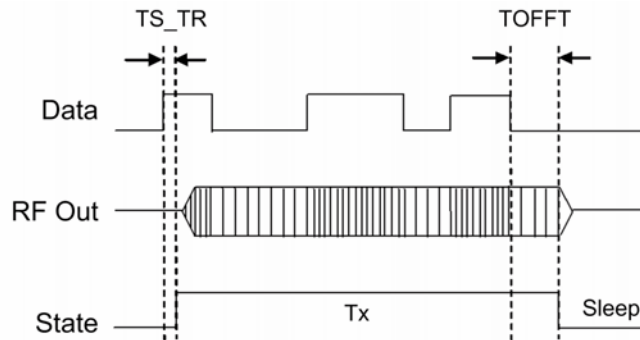

Figure 2. ‘Power & Go’ Mode: Transmitter Timing Operation
**Automatic Mode** operation is described in Figure 2. Here we see that a rising edge on the DATA pin activates the transmitter start-up process. DATA must be held high for the start-up time (TS\_TR) of the RFM68CW. During this time the RFM68CW undergoes an optimized, self-calibrating trajectory from Sleep mode to Transmit mode. Once this time has elapsed, the RFM68CW is ready to transmit. Any logical signal subsequently applied to the DATA pin is then transmitted.